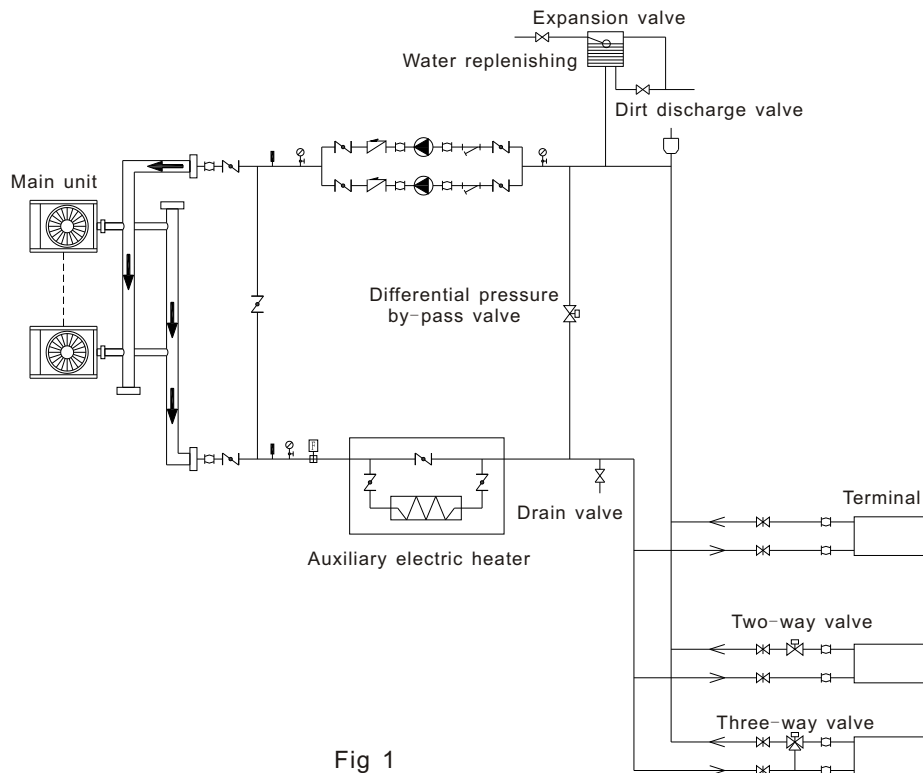
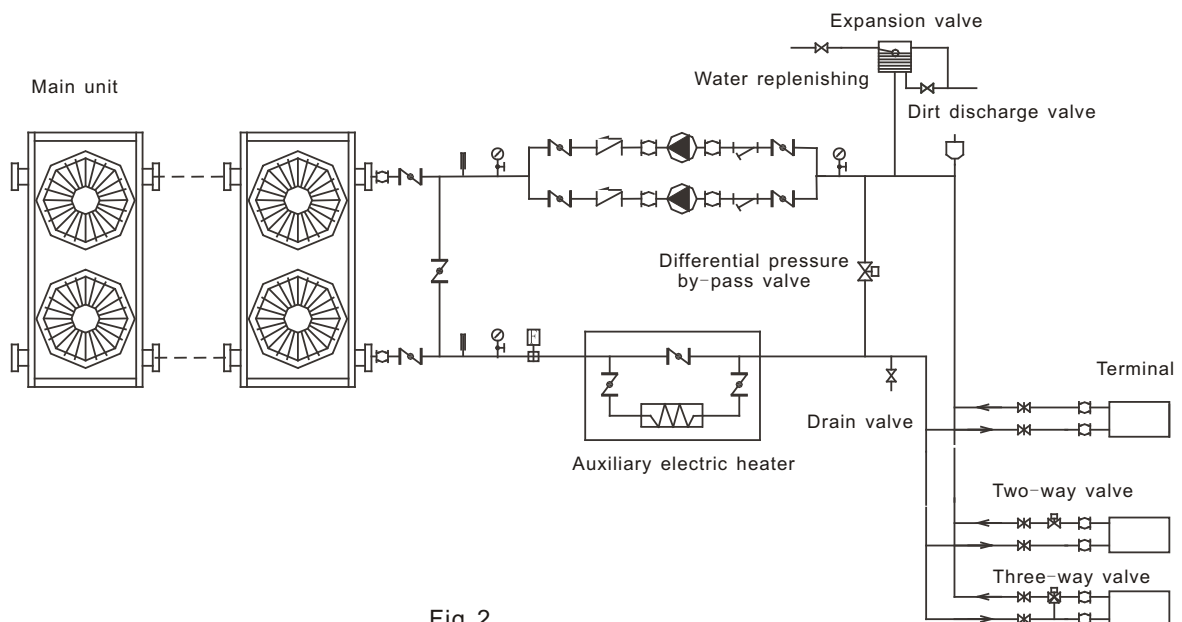
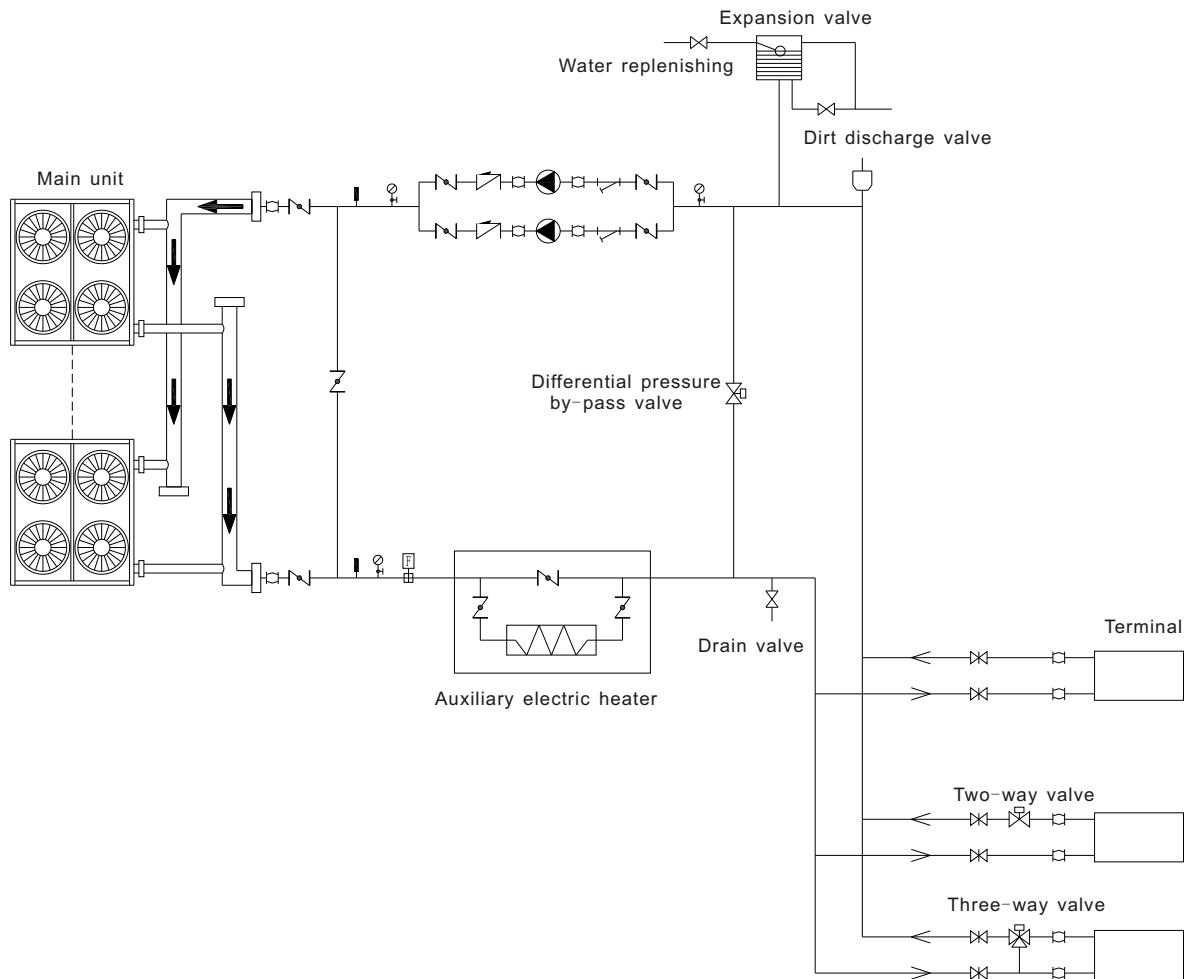

Fig 1
Fig 2
Fig 3
- The by-pass pipes and by-pass valves as shown in Fig. 1, Fig 2 and Fig 3 must be mounted for the heat exchanger, to facilitate cleaning of the outside system of water passage before the unit is adjusted. During maintenance, the water passage of the heat exchanger can be cut off without disturbing other heat exchangers.